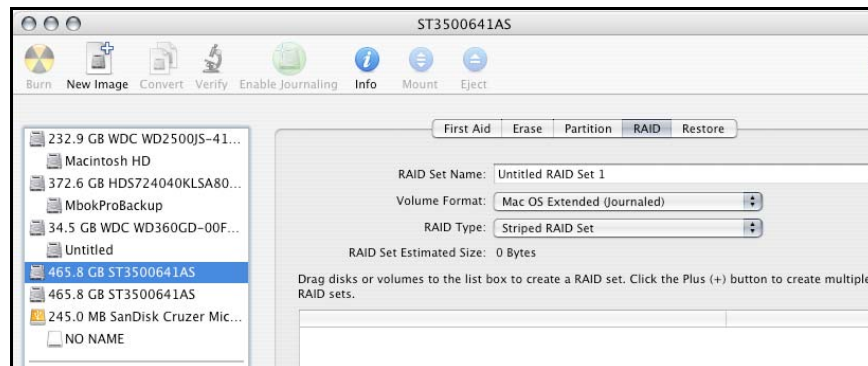

Figure 11: Selecting the RAID tab in Apple's *Disk Utility*
4. Select the *RAID* tab in Apple's *Disk Utility* (see Figure 11)